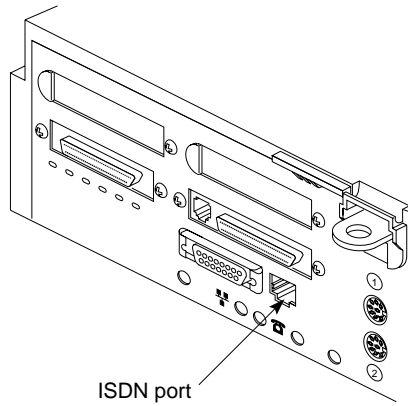

Figure 3-6 Connecting an ISDN Cable to the Challenge S Server
2. Plug one end of the ISDN cable into the port above the ISDN label on the back of the Challenge S server, as shown in Figure 3-6. Note that the ISDN port and the Ethernet 10-BASE T port above it look similar. The ISDN port is the one on the bottom, as shown below.